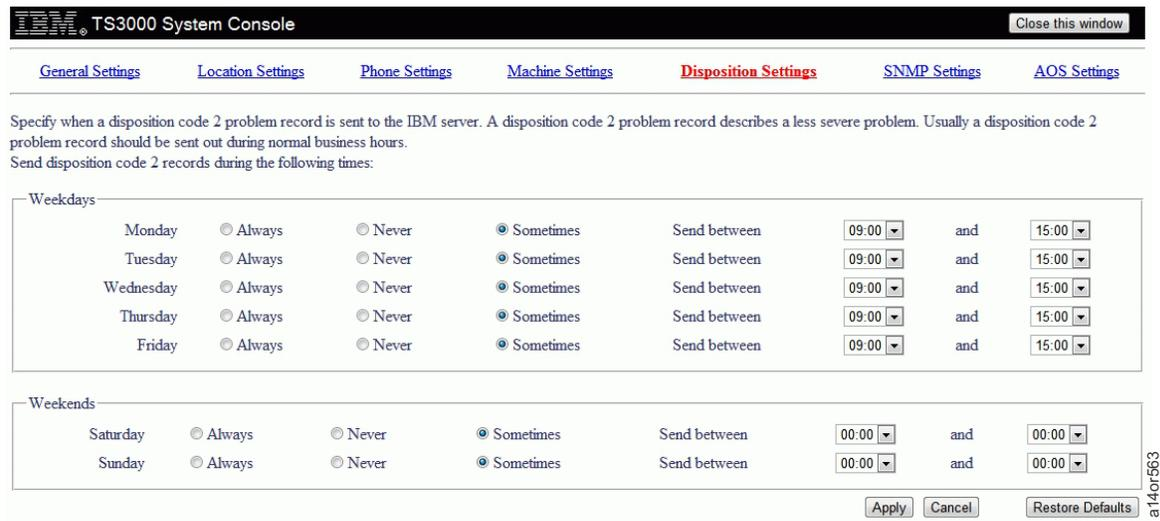

Figure 119. Disposition Settings Screen
- From the top menu, select **Disposition Settings** to develop, specify, or change a schedule for when you would like Disposition Code 2 records to be sent to the IBM server. The Disposition Settings screen in Figure 119 appears. In the Weekdays and the Weekends fields, choose on what days of the week and during what time periods you would like notices to be sent. Select **Apply**.